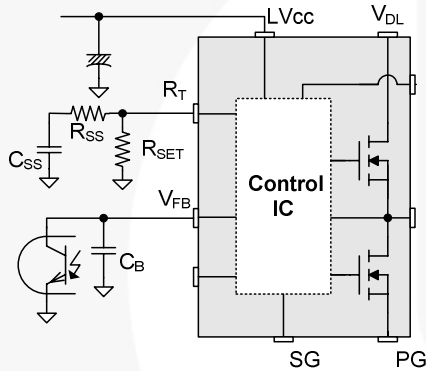

Figure 24. External Soft-Start Circuit
4. Soft-Start: At startup, the duty cycle starts increasing slowly to establish the correct working conditions for transformers, inductors, and capacitors. The voltage on the output capacitors is progressively increased to smoothly establish the required output voltage. Soft-start time is internally implemented for 15ms (when the operating frequency is set to 100kHz .) In addition, to help the soft-start operation, a capacitor and a resistor would be connected on the R_T pin externally, as shown in Figure 24. Before the power supply is powered on, the capacitor C_{SS} remains fully discharged. After power-on, C_{SS} becomes charged progressively by the current